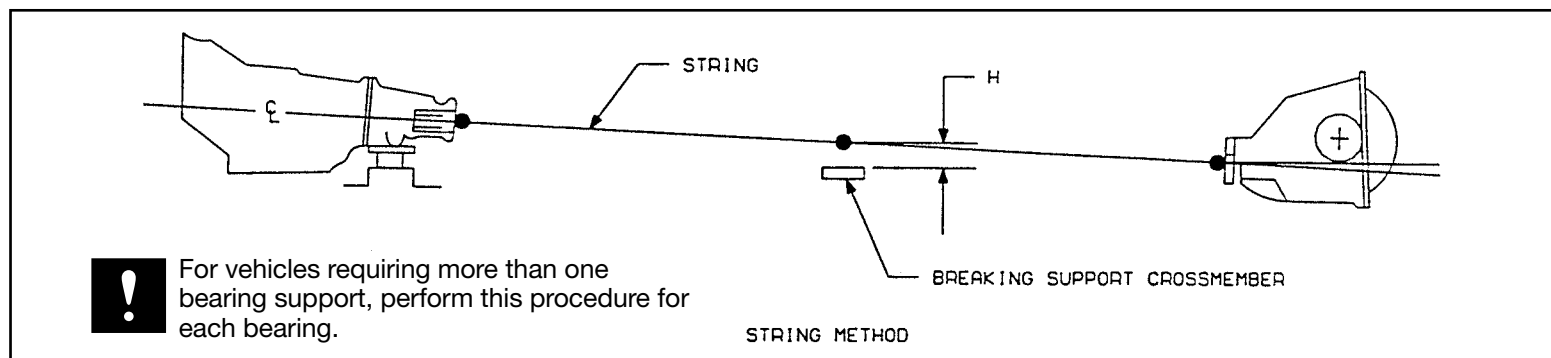

Figure 19
4. Measure the vertical distance from the center of the bearing mounting area of the crossmember to the string (dimension H, Figure 19).